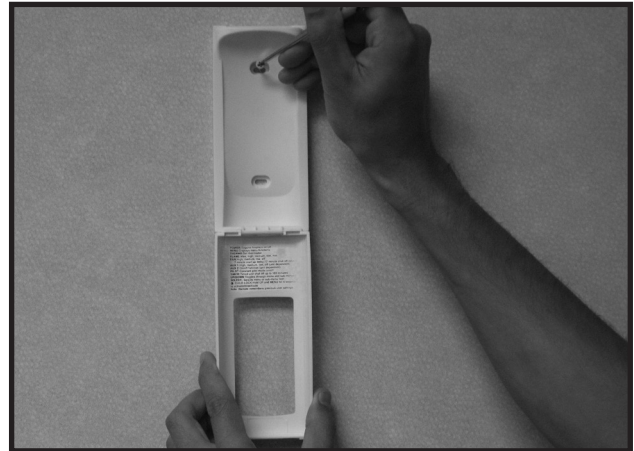

Figure 47. Mounting Remote Control Housing
3. Secure the remote control housing on a flat wall surface using the two screws and wall anchors provided. See Figure 47.